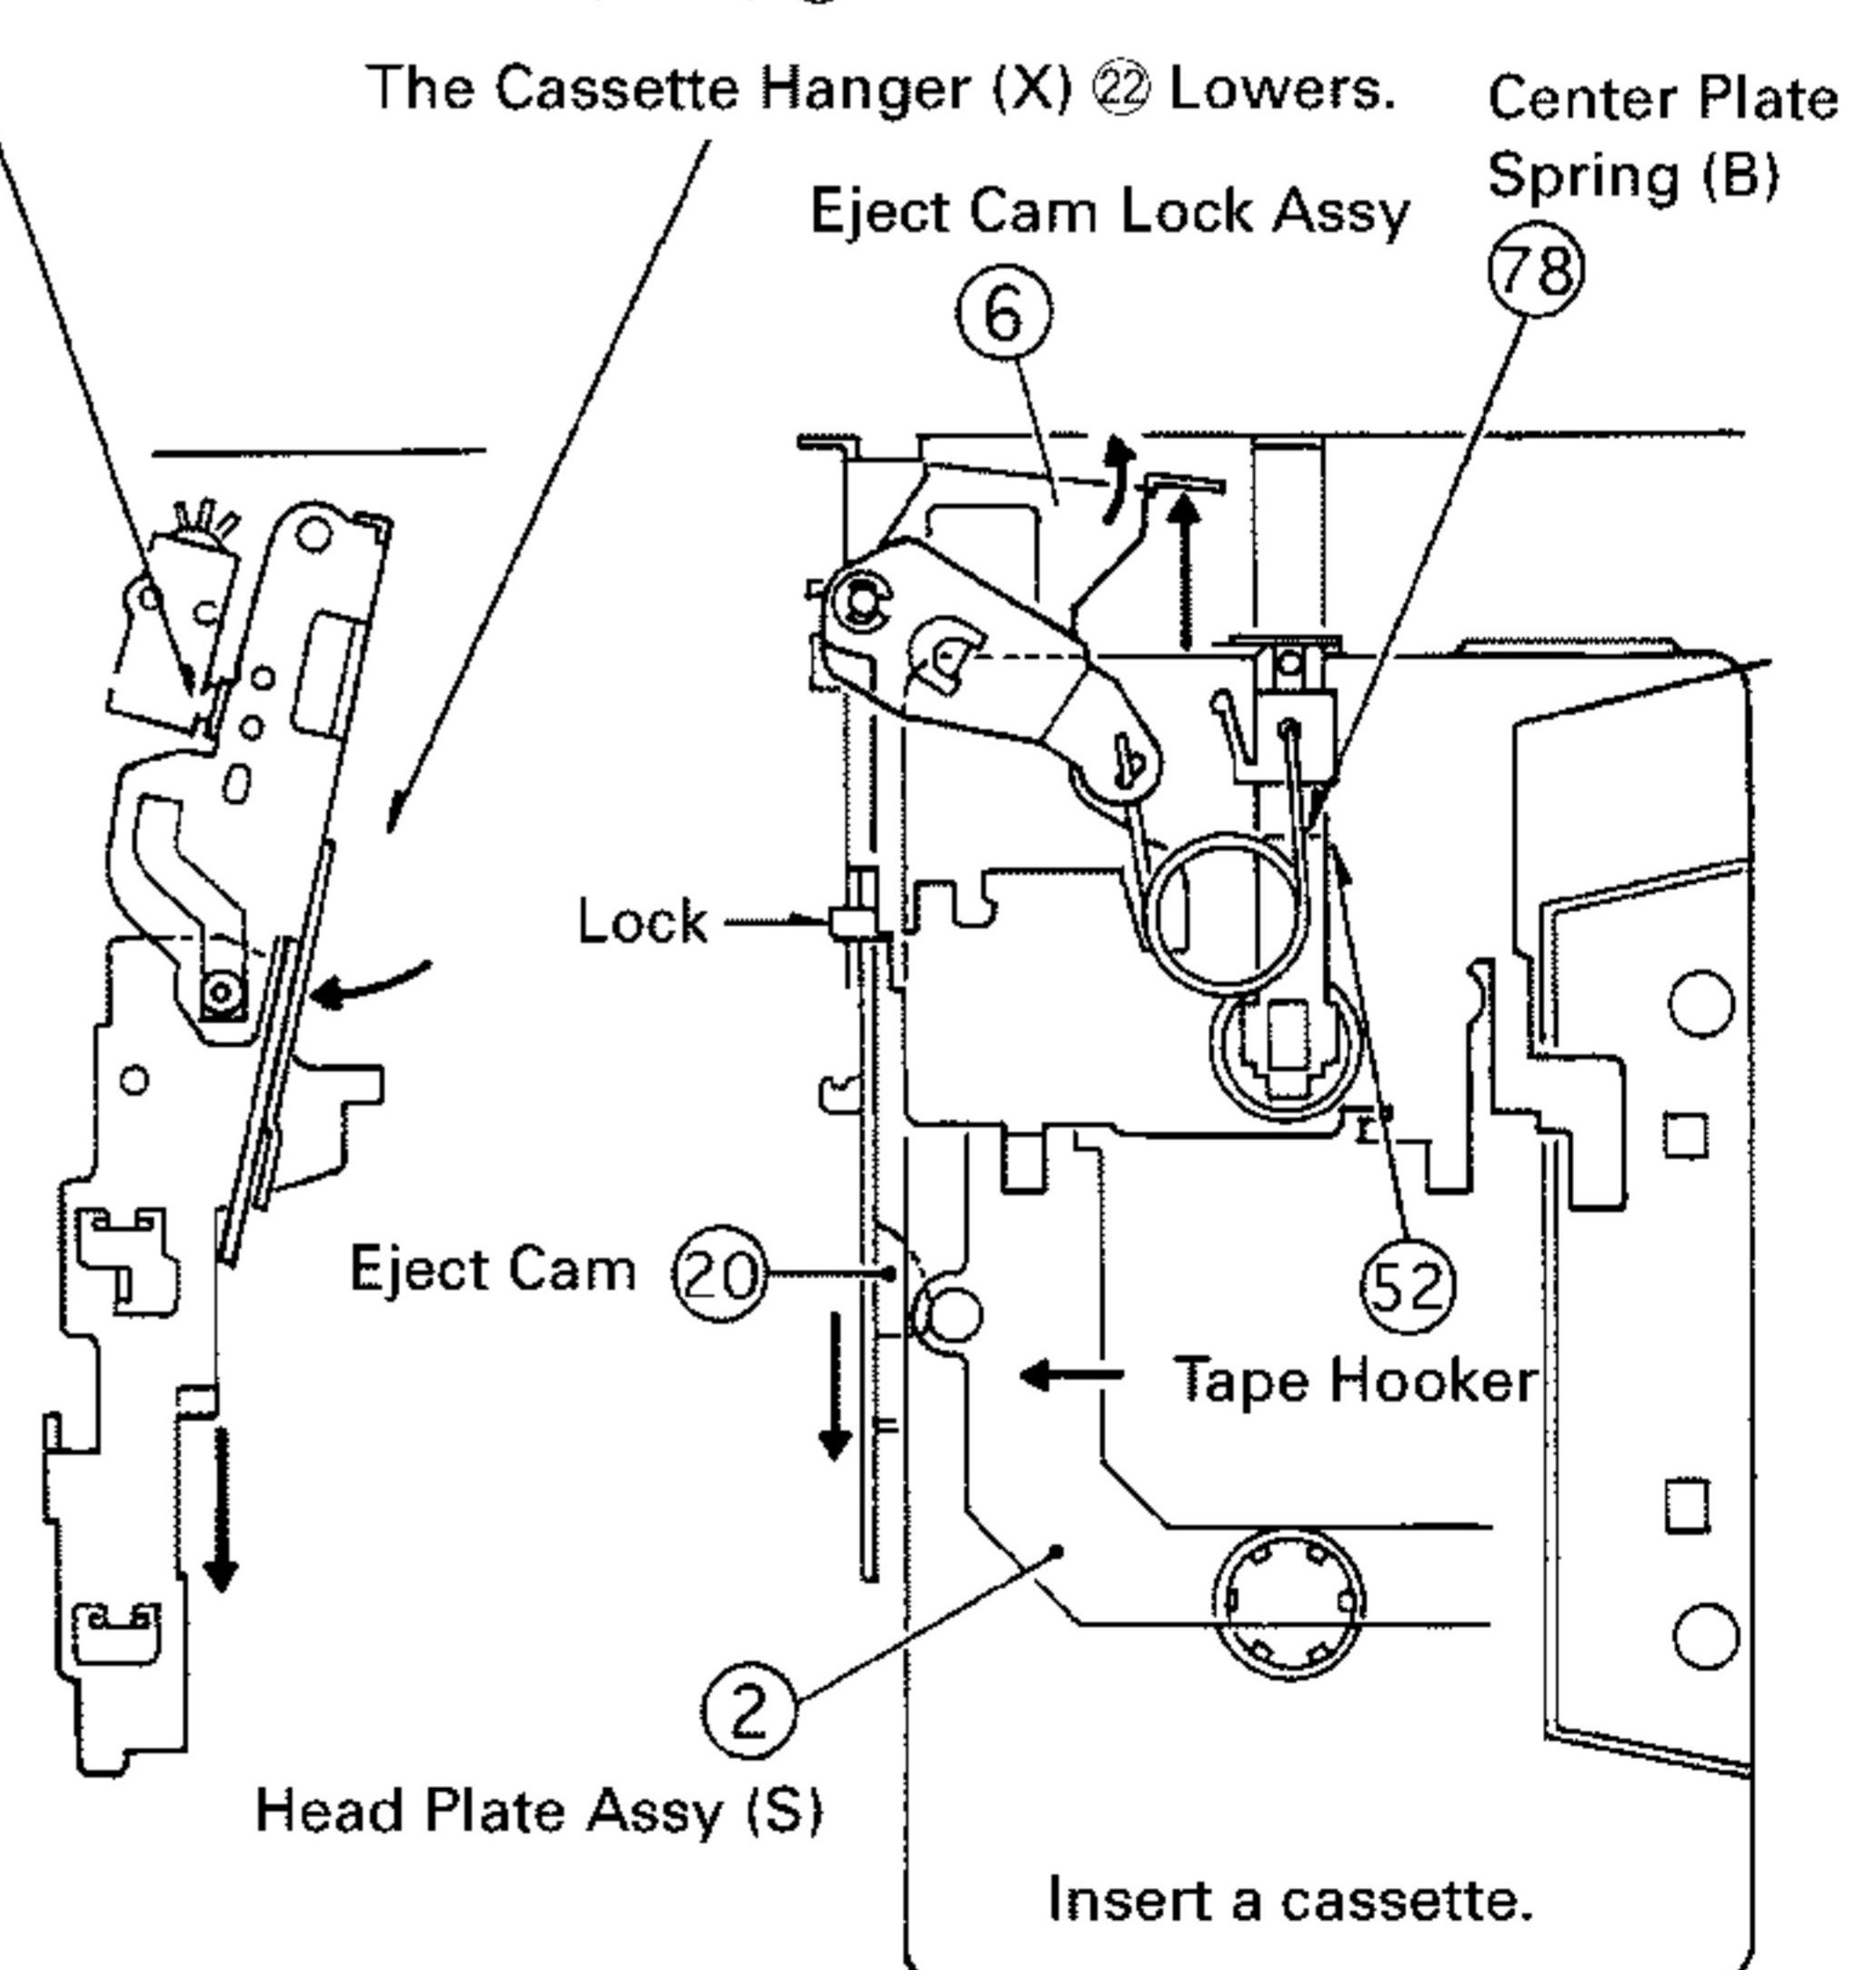

Fig. 8
- (1) Inserting a cassette rotates the Center Plate Spring (B) ⑧ in the reverse direction to activate pressure in the withdrawal direction.
- (2) The Tape Hooker ⑫ withdraws the cassette by the pressure of the Spring.
- (3) The Tape Hooker ⑫ taps the Eject Cam Lock Assy ⑥ to unlock the Eject Cam ⑯. Then the Eject Cam ⑯ moves in the direction shown by an arrow in the Fig.8.
- (4) The Eject Cam ⑯ lowers the Cassette Hanger (X) ⑭, and the Head Plate Assy (S) ② moves forward.
- (5) The tooth of the Cassette Hanger (X) ⑭ shifts the Power Switch(SW1) ⑯ to ON.